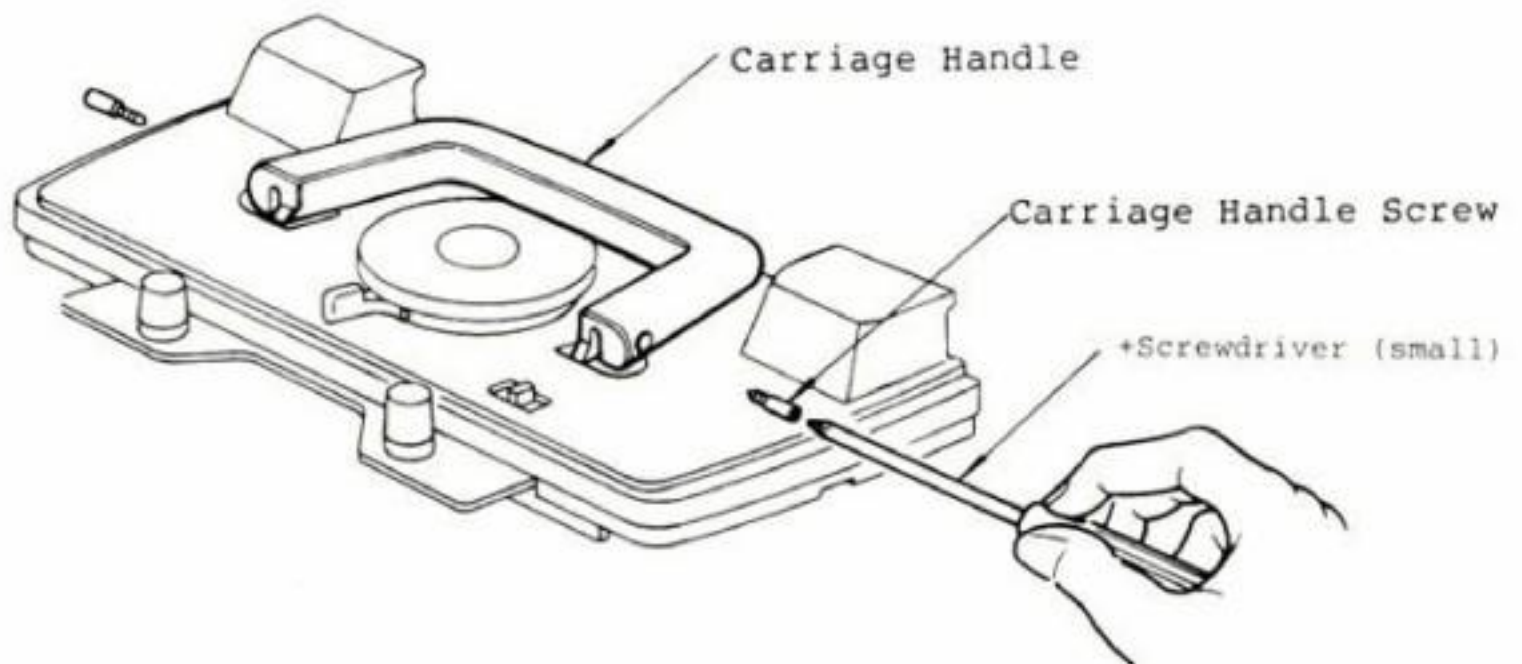

FIG.23
8. Lay down Carriage Handle as shown in Figure 23. Install two Carriage Handle Screws to engage recesses in Carriage Handle.